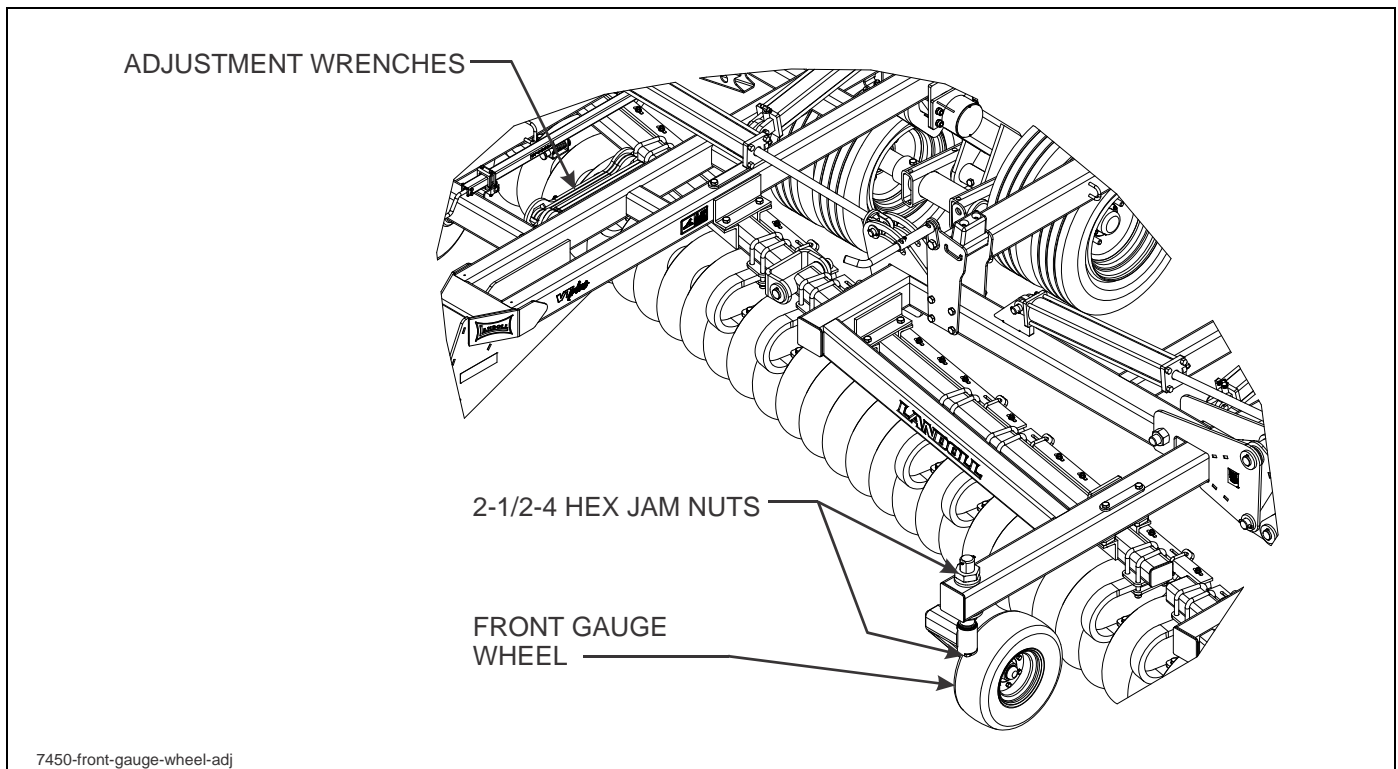

Figure 4-17: Front Gauge Wheel Adjustment
3. To adjust the gauge wheel depth, loosen and adjust the nuts on the top and bottom of the frame tube (See Figure 4-17.) The top nut will have to be loosened first allowing the bottom nut to descend out of its locked position, so that it can be rotated. Once the bottom nut is adjusted up or down, retighten the top nut being sure the bottom one is inside of the lock. A wrench is provided on the implement for this adjustment. Securely tighten the adjusting nuts when complete. All gauge wheel assemblies should be set the same. Verify adjustment by measuring the length of the bolt exposed above the top nut.